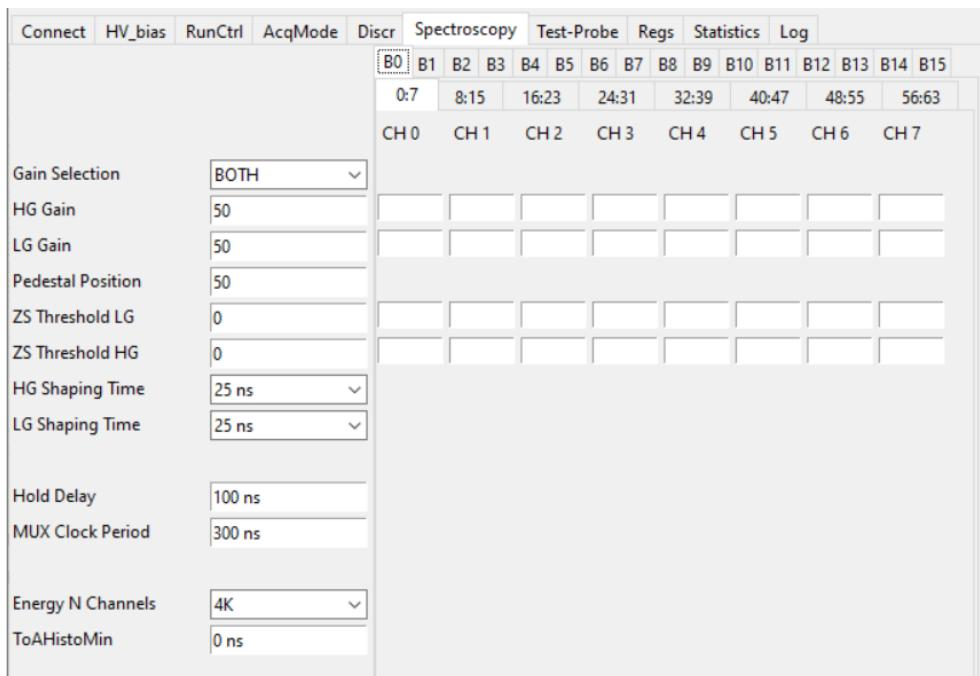

Fig. 10.22: Spectroscopy tab of the Janus GUI.
3. Click on the Spectroscopy tab (see Fig. 10.22). The user can now choose from which Citroc-1A amplification chain (LG or HG) the pulse height values have to be A/D converted and saved to the data packet by selecting the proper option of the "Gain Selection" parameter. In particular, the available options are: